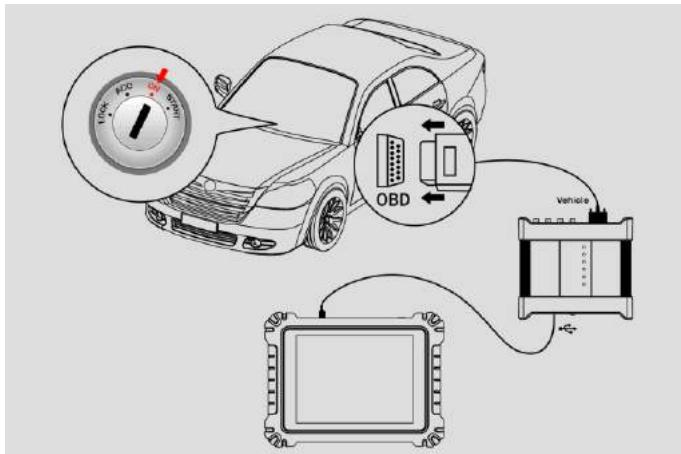

Figure 9-1 Sample Connection Diagram
1. Please refer to *Figure 9-1 Sample Connection Diagram* to complete the connection and turn the IG key to ON position.